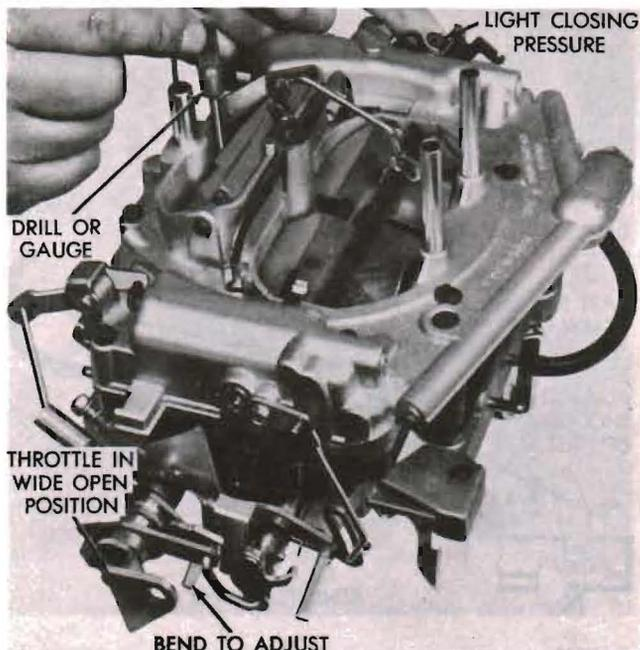

Figure 29. Adjusting Choke Unloader—Slide 2200
- (1) Hold throttle valves in wide open position. Insert specified (see specifications) drill between long side (lower edge) of choke valve and inner wall of air horn. (See figure 29.)
- (2) With the finger pressing lightly against the choke control lever, a slight drag should be felt as the drill is being withdrawn. If necessary, adjust by bending the tang on fast-idle control lever until correct opening has been obtained.